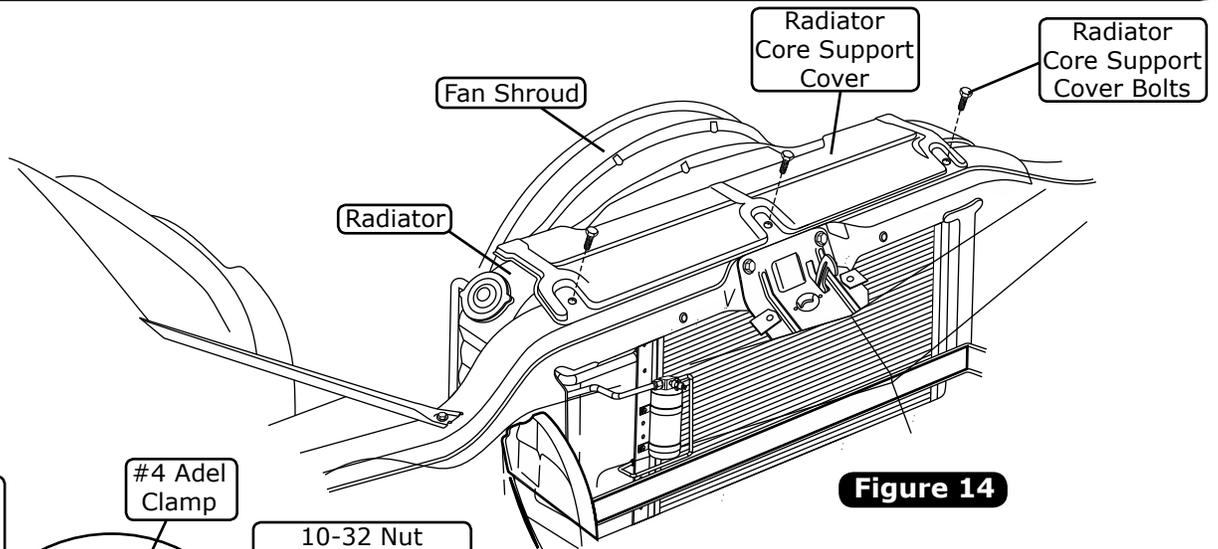

Figure 14
1. Reinstall the OEM fan shroud, radiator, and radiator core support cover (See Figure 14, below).